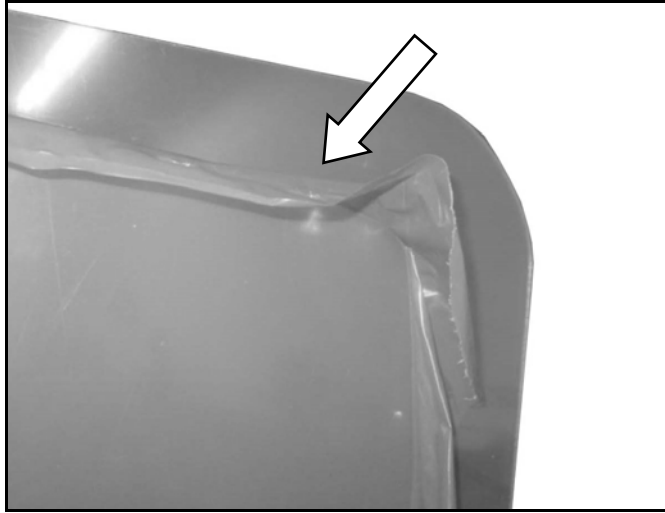

FIGURE 3-13. PULL FILM FROM EDGE OF LINER APPROXIMATELY 2"
- 2) Refer to **Figure 3-13**. Pull film back from edge of other side of window as needed. Approximately 2” is required of the window liner.